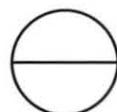

Figure 30. Instrument Tag
1. Determine the type of device indicated by the tag in figure 30.